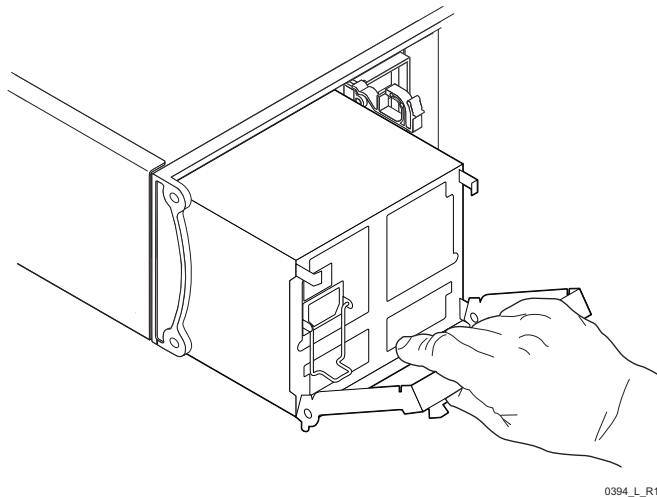

Figure 19-2. Use the Lever to Slide the Power Supply Out
- 8 Using the lever, carefully remove the power supply from the chassis while supporting the base with your other hand (Figure 19-2).